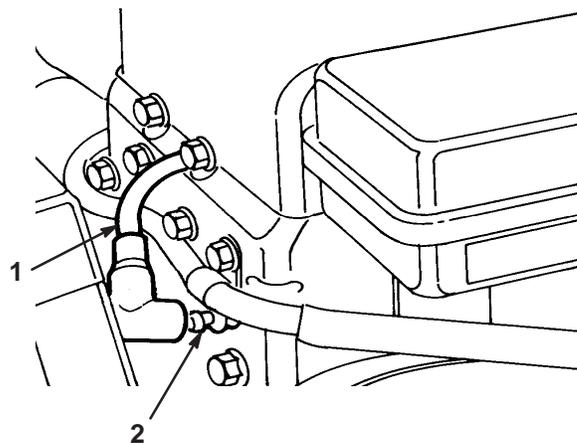

Figure 12
1. Remove the wire from the spark plug (Fig. 12).
- Pull the wire off the spark plug (Fig. 12).
3. Push the wire(s) onto the spark plug (Fig. 12).